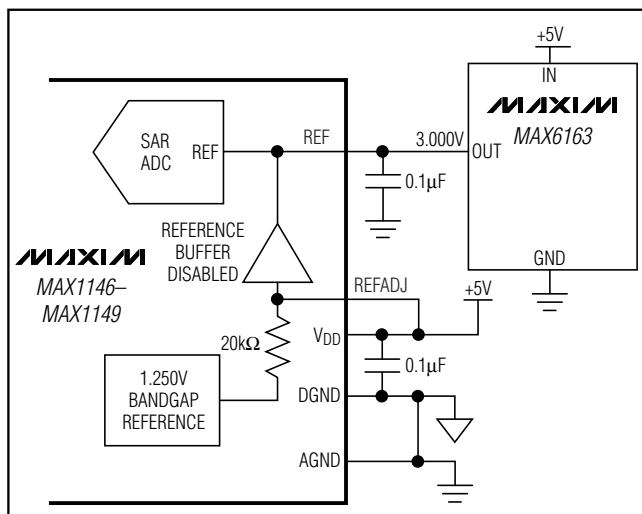

Figure 12. External Reference Applied to REF
- 1) Disable the internal reference buffer by connecting REFADJ to VDD and apply the external reference to REF (Figure 12).